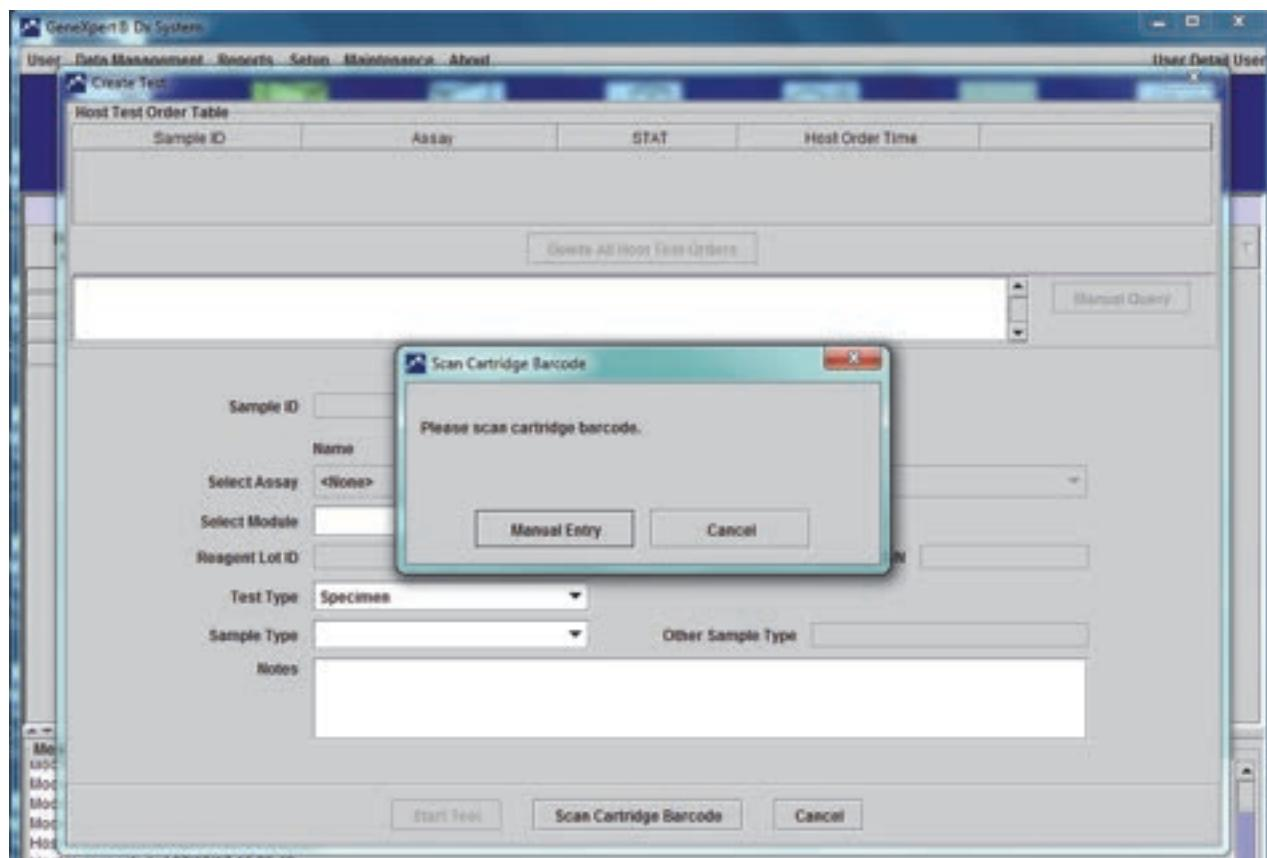

Figure 5-114. Orders Table with Scan Cartridge Barcode Overlay Screen
2. The Host Test Order screen will be displayed with a Scan Cartridge Barcode overlay screen. See Figure 5-114.
3. As instructed in Figure 5-114, scan the cartridge barcode using the supplied scanner.